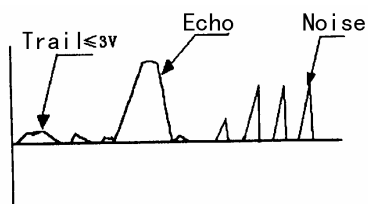

Fig. 35
3) Observe the echo on the control box by oscilloscope with synchronous out-trigger. Find the real echo according to above estimated time and record its position on the oscilloscope. The wave shape of echo is shown as Fig. 35. (5V/div, t=5ms/div)